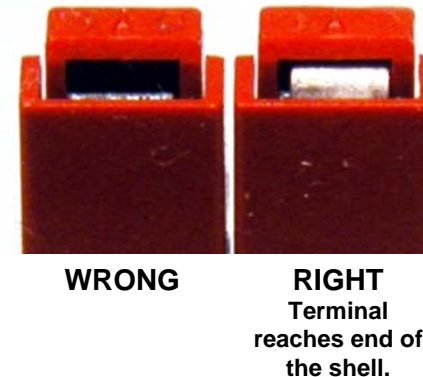

Figure 27. Verify Terminal is Fully Inserted.
- Inspect the end of each connector. You should see the terminal pressing up against the end as shown in Figure 27. If necessary, press the terminal in until it reaches the end. **If you don't get the terminal pushed all the way in so it locks over the end of the spring, it will not make reliable contact with the mating connector.**